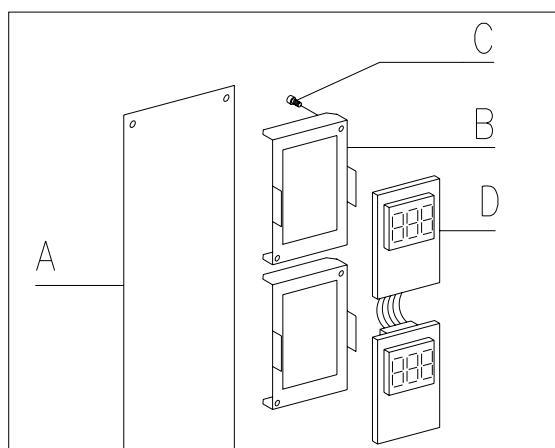

FIG. 20
1. Turn the shaft of the gear motor until the two dowels pos. 2 FIG. 20 are moved into a position in which the spanner can be inserted. To rotate the shaft, it will be necessary to press the clutch pos. 1;
2. Unscrew the two dowels pos. 2;
3. Unscrew the fastening nut of the encoder pos. 4 and, after having removed the electrical connector pos. 3, remove the encoder ;
8.13 REPLACING THE DISPLAY FIG. 20